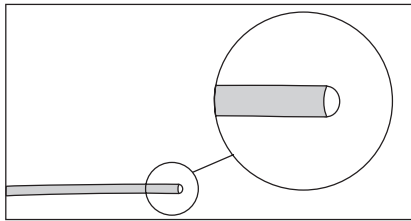

Figure 30
12. Examine tip of VPS Stylet after removal to ensure wire has not been altered (refer to Figure 30).